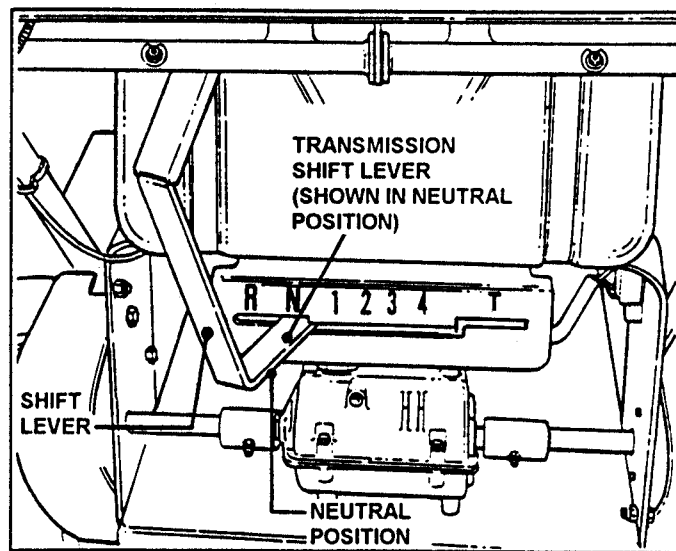

FIGURE 6
3. Place Transmission Shift Lever in NEUTRAL(N) position. See Figure 6.